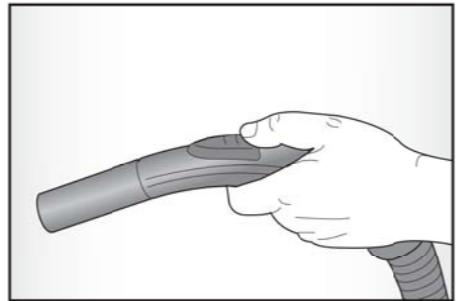

Fig. 4
The secondary air valve (P) is on the hand grip (Q) and it is used to regulate suction power (FIG. 4).